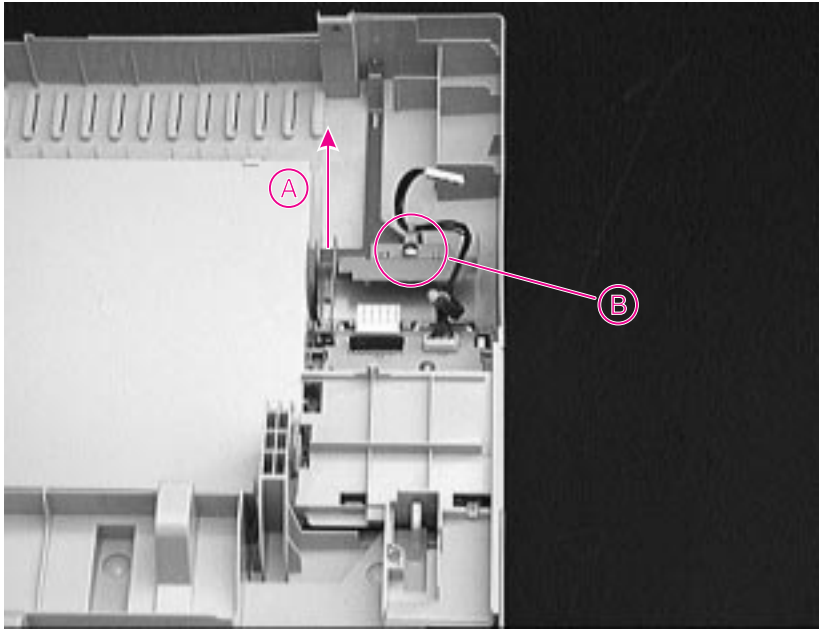

Figure 6-9 Back Side of Top Cover
- 6 Grasp the Control Panel by the metal frame and remove it from the underside of the Top Cover. See Figure 6-9, "Back Side of Top Cover," on page 6-16.